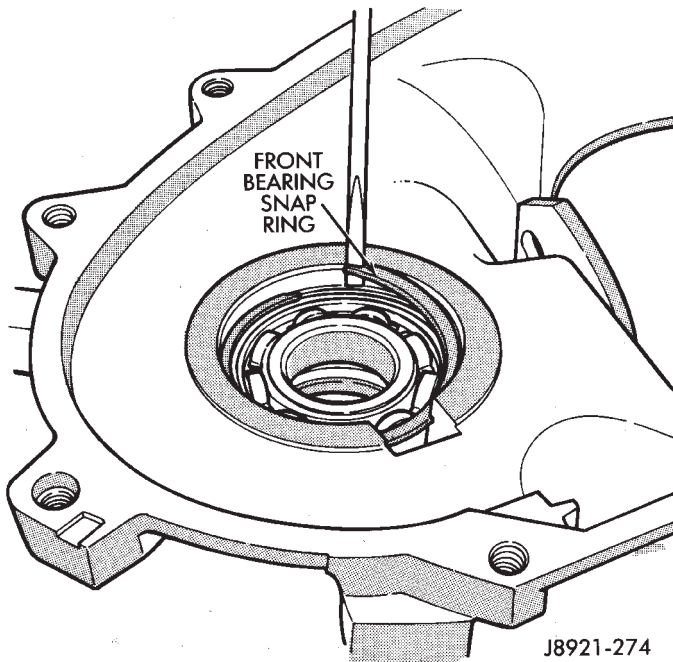

Fig. 47 Front Output Shaft Front Bearing Snap-Ring Removal
- (1) Remove snap-ring that retains front output shaft front bearing in case (Fig. 47). Then remove bearing. Use hammer handle, or hammer and brass punch to tap bearing out of case.
- (3) Install front bearing snap-ring (Fig. 47).